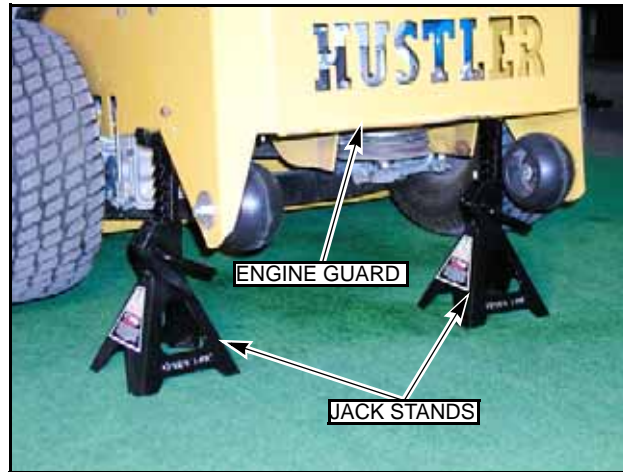

Fig. 9-8
1.Raise and block the tractor up so the drive wheels are off of the floor. Fig. 9-8